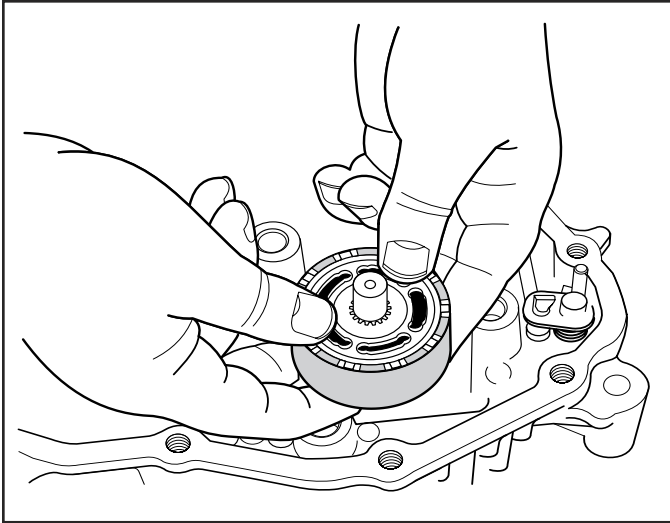

Fig. 30, Cylinder Block Removal from Pump Shaft
11. Remove the Cylinder Block Assembly from the Pump Shaft. (Fig. 30)